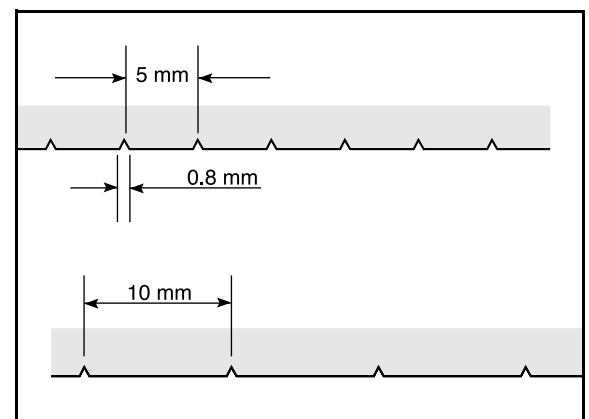

Fig. 16
- 10 Grind nicks in the knives for perforation using a high-speed grinding machine. Use small, but close-lying nicks for thinner material and larger indents farther apart for thicker material. Fig. 16 shows an example on how to nick the lower gauge (10 mm pitch), resp. higher gauge (5 mm pitch). Perforator blades mounted on new machines, or supplied as spares, are always unnicked..